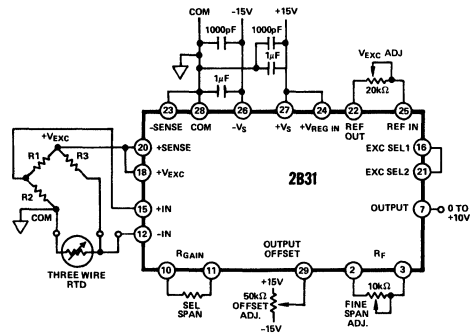

Figure 8. Three-Wire RTD Interface
**Interfacing Three-Wire Sensors:** A bridge configuration is particularly useful to provide offset in interfacing to a platinum RTD and to detect small, fractional sensor resistance changes. Lead compensation is employed, as shown in Figure 8, to maintain high measurement accuracy when the lead lengths are so long that thermal gradients along the RTD leg may cause changes in line resistance. The two completion resistors (R1, R2) in the bridge should have a good ratio tracking (±5ppm/°C) to eliminate bridge error due to drift. The single resistor (R3) in series with the platinum sensor must, however, be of very high absolute stability. The adjustable excitation in the 2B31 controls the power dissipated by the RTD itself to avoid self-heating errors.